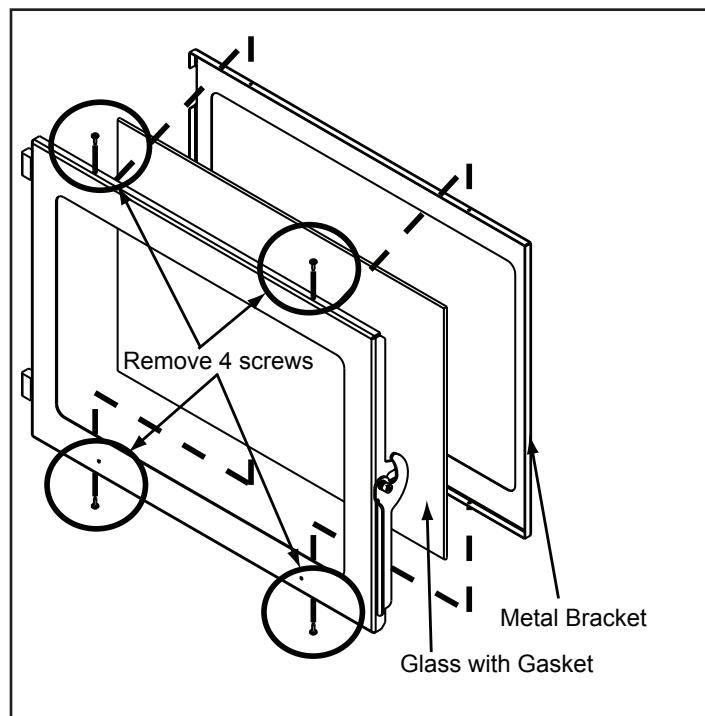

Figure 29.2
- b. Using a Phillips head screw driver, remove 4 screws, 2 on the top and 2 on the bottom. Remove metal bracket and then remove the glass. **Figure 29.2.**